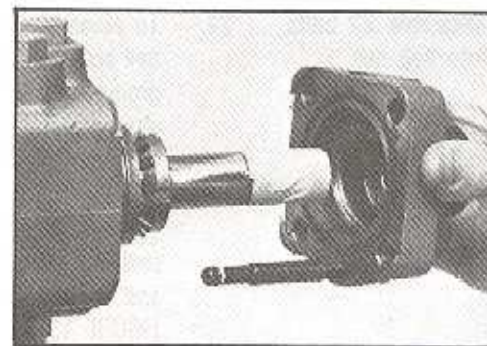

Figure 125
20. Install upper cover (7) assembly carefully over worm shaft (25B) serrations aligning the poppet adjusting screw (9) with the adjusting screw hole in the valve assembly (18) and adaptor assembly (20). Insert the poppet adjusting screw through it's hole in the valve assembly and engage the adjusting screw hole in the adaptor until the adaptor and upper cover are piloted and positioned against the valve assembly mating faces. SEE FIGURE 125.